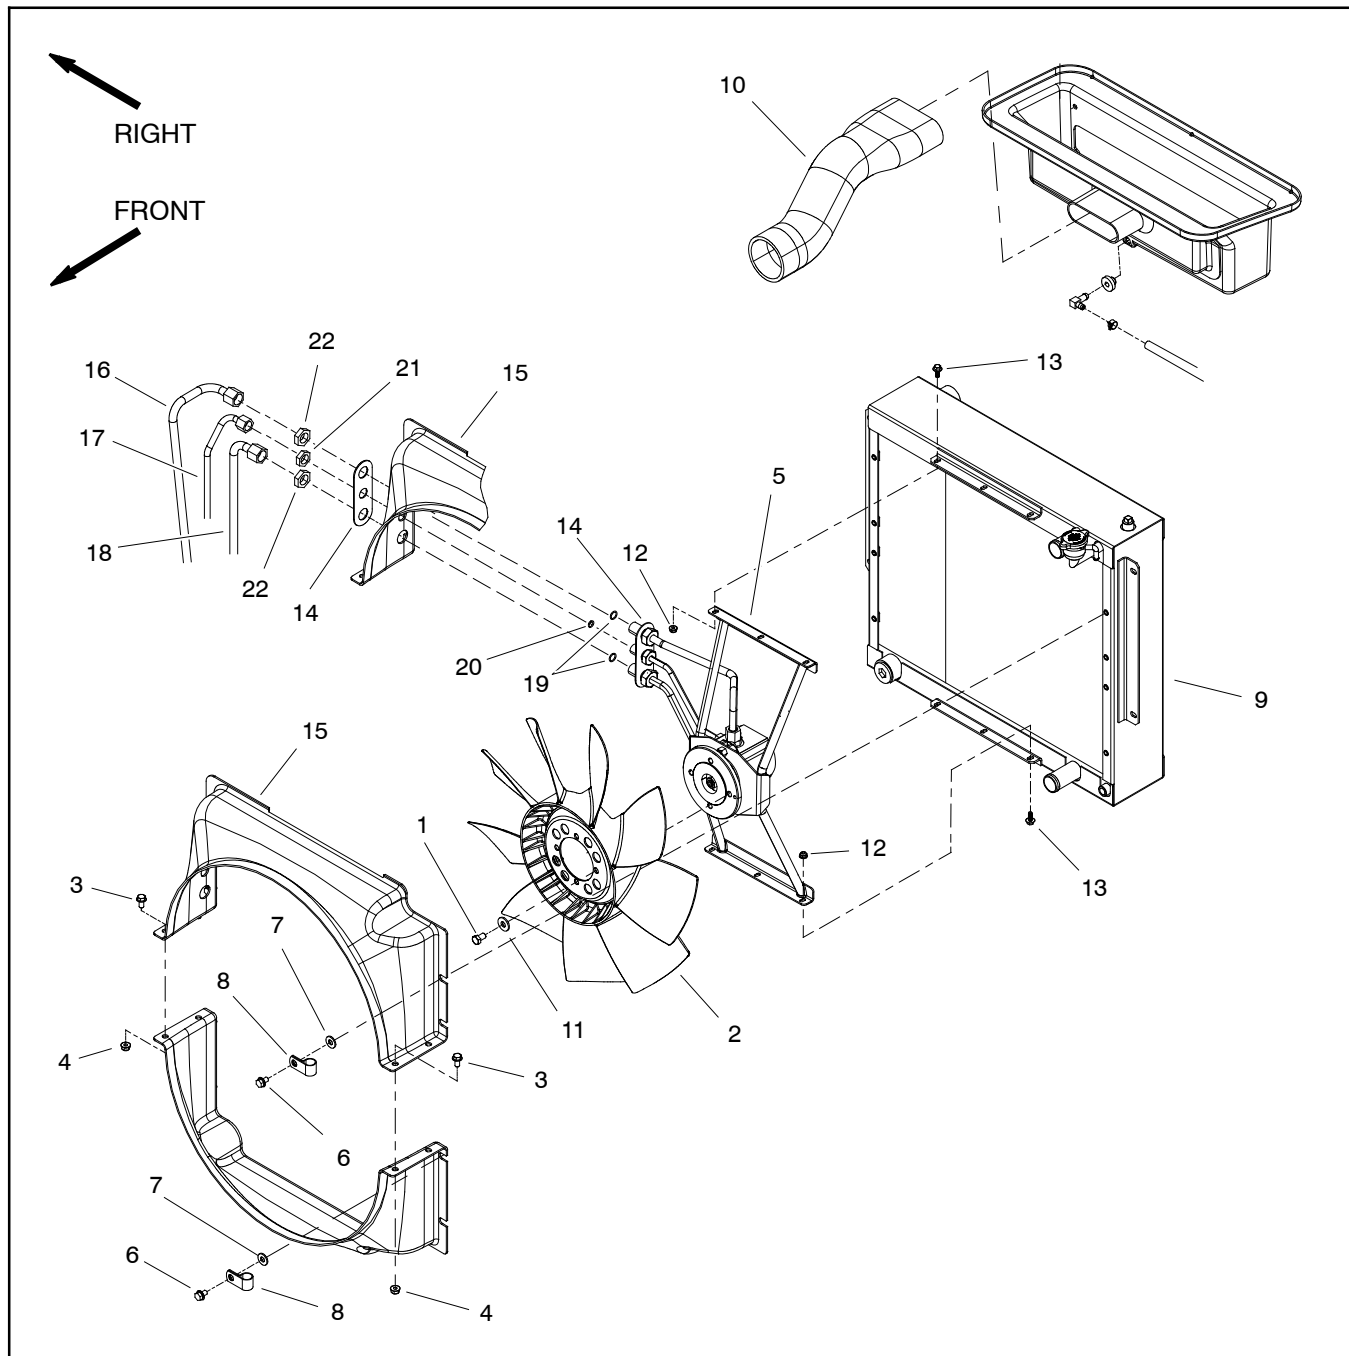
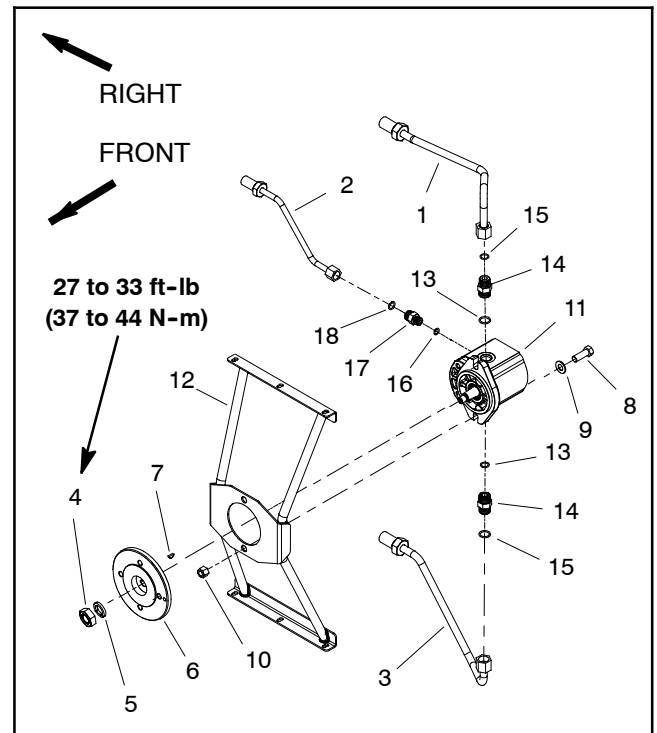

Figure 103
Figure 104
## Removal (Fig. 103)
7. Remove fan motor from bracket (Fig. 104):
- A. Disconnect hydraulic tubes (items 1, 2 and 3) from fan motor fittings. Label hydraulic tubes for proper assembly.
- B. Remove hex nut (item 4) and washer (item 5) that secure fan hub to fan motor. Use suitable puller to carefully remove fan hub from fan motor shaft. Locate and retrieve woodruff key (item 7).
- C. Remove two (2) cap screws (item 8), flat washers (item 9) and lock nuts (item 10) that secure fan motor to fan motor bracket. Remove fan motor from bracket.
### Installation (Fig. 103)
2. Secure fan motor to bracket (Fig. 104):
- A. Position fan motor to fan motor bracket and secure with two (2) cap screws (item 8), flat washers (item 9) and lock nuts (item 10).
- B. Thoroughly clean tapered surfaces of fan motor shaft and fan hub. Place woodruff key (item 7) in slot in motor shaft.
- C. Position fan hub onto motor shaft and secure with washer (item 5) and hex nut (item 4). Torque nut from **27 to 33 ft-lb (37 to 44 N-m)**.
- D. Connect hydraulic tubes (items 1, 2 and 3) to fan motor fittings. Use support shim (item 14 in Fig. 103) to help orientate tubes during assembly.
3. Carefully position fan motor and bracket assembly to radiator and secure with six (6) cap screws and flange nuts.
4. Install upper radiator shroud (Fig. 103):
- A. Place support shim (item 10) on hydraulic tubes connected to fan motor.
- D. Slide support shim (item 10) onto hydraulic tubes and secure tubes to upper shroud with bulkhead nuts (items 21 and 22).
- E. Make sure that lubricated O-rings (items 19 and 28) are placed in hydraulic tubes.
- F. Remove caps and plugs placed in hydraulic tubes during removal to prevent contamination. Connect and secure hydraulic tubes (items 16, 17 and 18) (see Hydraulic Hose and Tube Installation in the General Information section of this chapter).
5. Position fan (item 2) to fan hub and secure with four (4) cap screws and washers.
6. Install air cleaner hose (item 10) to air cleaner and plenum on top of radiator.